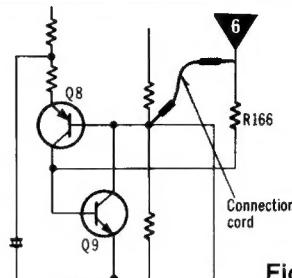

Fig. 17
<p>① Fluorescent meter</p> <p>Condition:</p> <ul style="list-style-type: none"> * Record mode * Tape selector Normal position * Input level controls ... MAX <p>Equipment:</p> <ul style="list-style-type: none"> * VTVM * AF oscillator * ATT 	<p>1. Test equipment connection is shown in fig. 16.</p> <p>2. As shown in fig. 17, connect the collector of Q8 and peak reset terminal.</p> <p>3. Supply 1kHz signal (-24 dB) to the LINE IN jack, then press the record button.</p> <p>4. Adjust the ATT so that the output level at LINE OUT jack becomes 0.45V (The input level at this condition is termed the standard input level).</p> <p>5. Adjustment at "-20 dB":</p> <ol style="list-style-type: none"> Adjust the ATT so that input level is -20 dB below standard recording level. Adjust VR7 so that the -20 dB segment lights up in the -20 ± 1 dB range (L-CH ONLY) (See fig. 18). <p>6. Adjustment at "0dB":</p> <ol style="list-style-type: none"> Adjust the ATT so that the output level at LINE OUT jack becomes 0.45V. (The input level at this condition is termed the standard input level.) Adjust VR8 so that the +1 dB segment lights up in the 0 ± 0.2 dB range of the standard input level (See fig. 19). <p>7. Repeat twice between steps 5 and 6 above.</p> <p>8. Adjust ATT and check that all segments light up when an input signal level is increased to 10 dB higher than the standard input level (See fig. 20).</p>